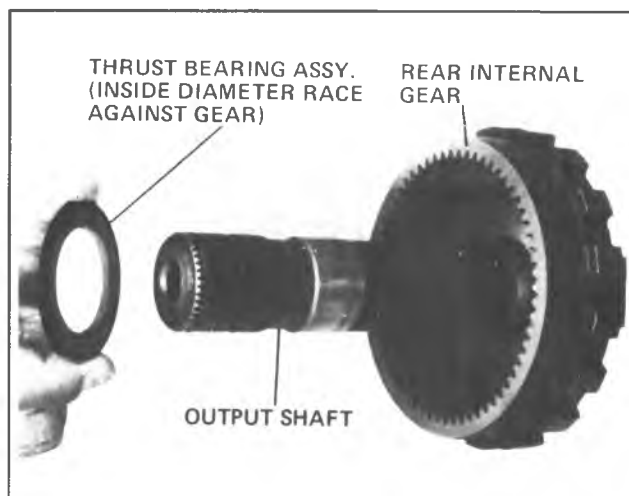

Fig. 7A-64A--Installing Thrust Bearing Assembly
2. Remove roller clutch assembly and inspect roller bearings cage and springs for damage or wear (Fig. 7A-65A).